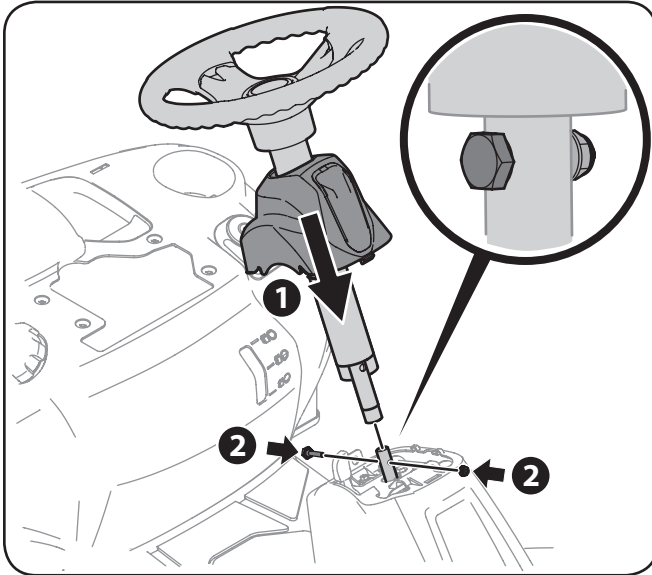

Figure 3-3
4. Lower the steering wheel assembly onto the lower steering shaft and secure with the shoulder bolt and lock nut previously removed. See Figure 3-3.